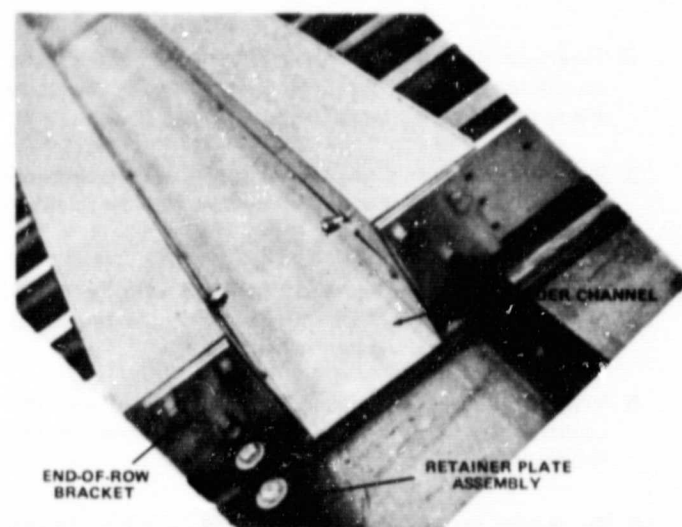

Figure 3-14 In Dual Arrangement, Place the Next Collector Below the First
9. Place the collector and channel assembly on the UNISTRUT below the first collector row installed (Figure 3-14) with the T-brackets in position. Attach the header channel to the top collector using two of the screws
10. Place an internal T-bracket (pinned) into each UNISTRUT and insert into the corresponding holes in the collector. Verify the correct location and squareness of the first collector, and secure the retainer plates, (Figure 3-14), to the UNISTRUT.